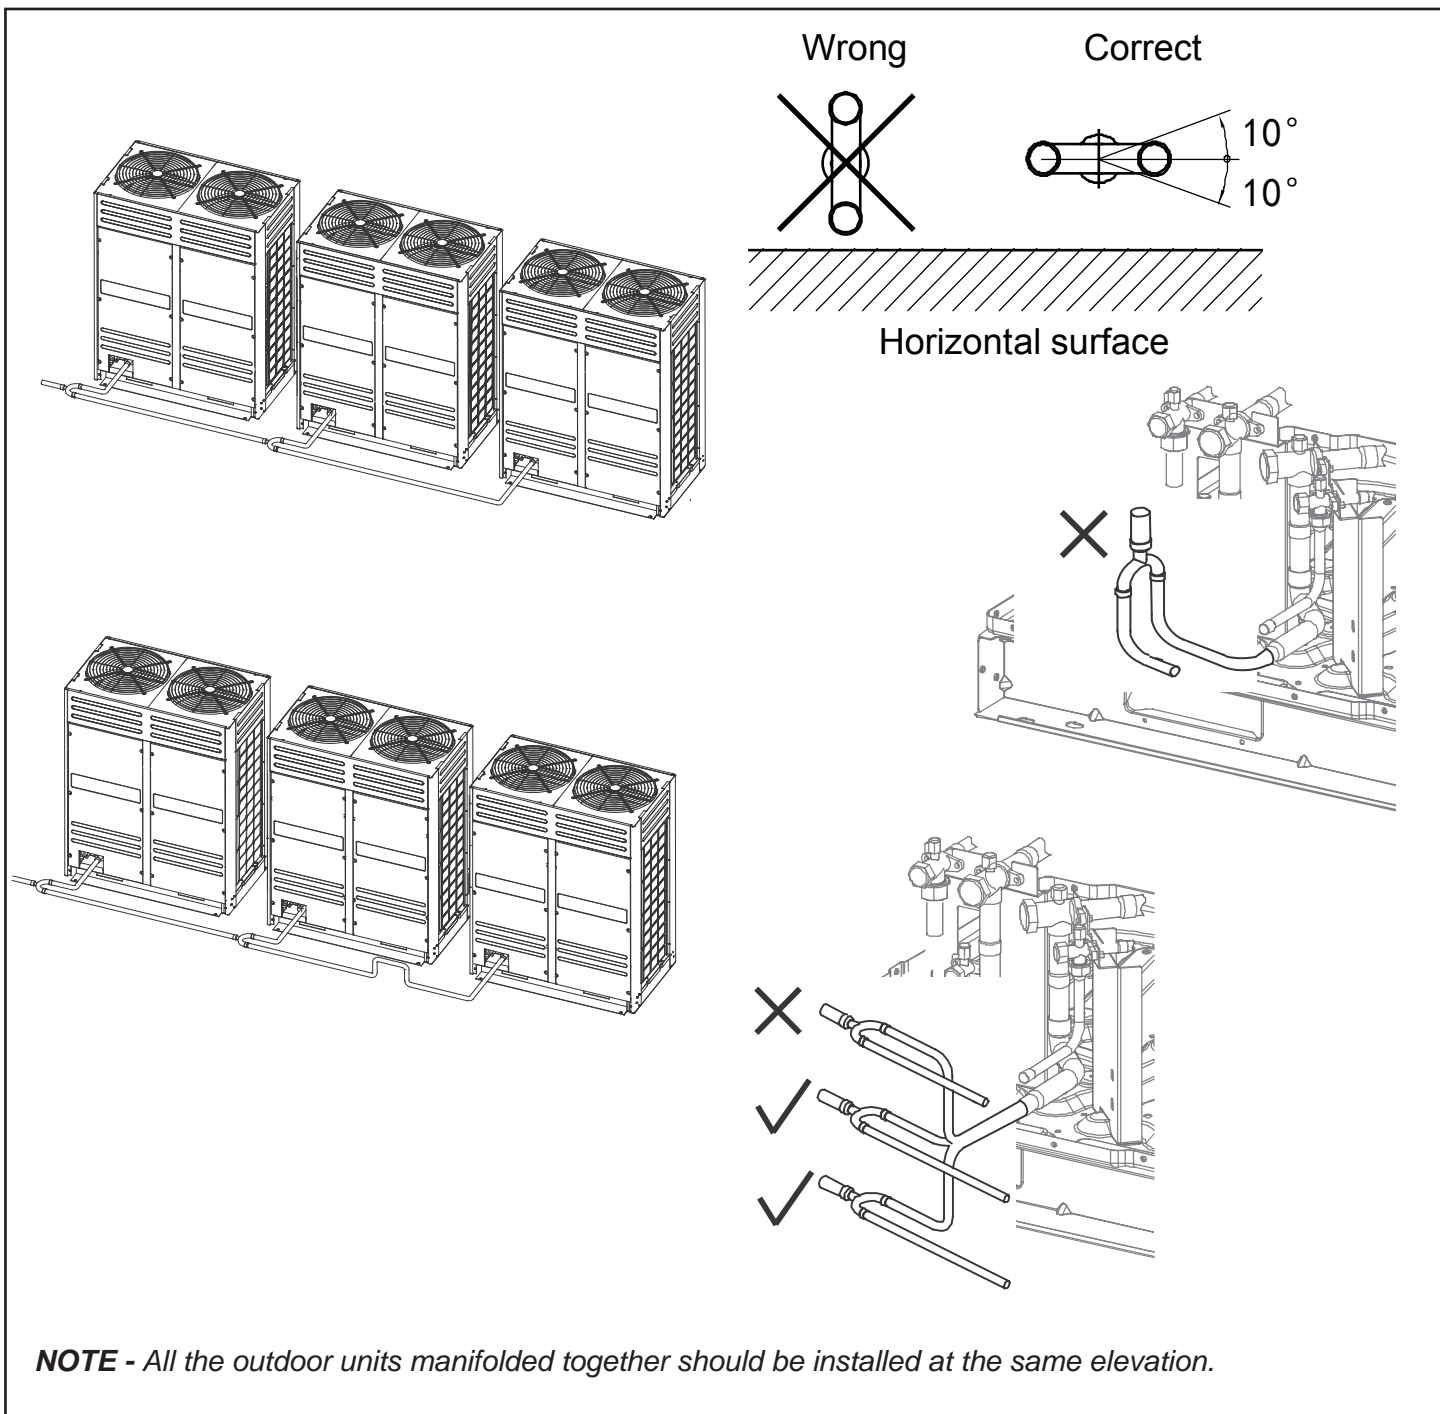

Figure 18. Connecting Manifolded Units
2. Locate the terminal strip in the outdoor unit control box. Connect the power wiring (sized per NEC/CEC and local codes) and communications cable (3-conductor, shielded cable) per figure 18. Refer to unit nameplate for rated voltage.